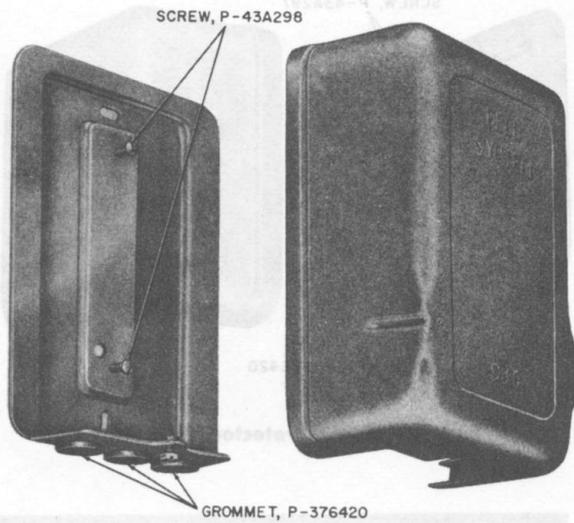

Fig. 14—93C Protector Mounting
**3.06** The 93C protector mounting (Fig. 14) is intended to house the 98AA(MD), 106C, and 106CA(MD) protector for outdoor installation. This mounting consists of a metal base and removable metal cover. It is provided with two screws for fastening the protector to the metal base.